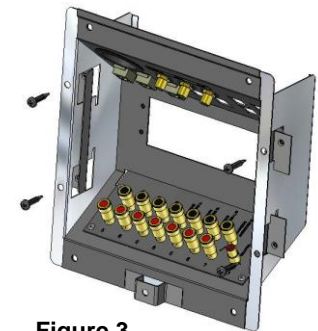

Figure 3
- F. Once all the cables are attached to the back of the HECC, insert the HECC into the drywall opening and slip a retrofit clip into the slot in each side of the HECC, and then use drywall screws in the center two holes on each side flange to secure the HECC to the clips (see **Figure 3**).